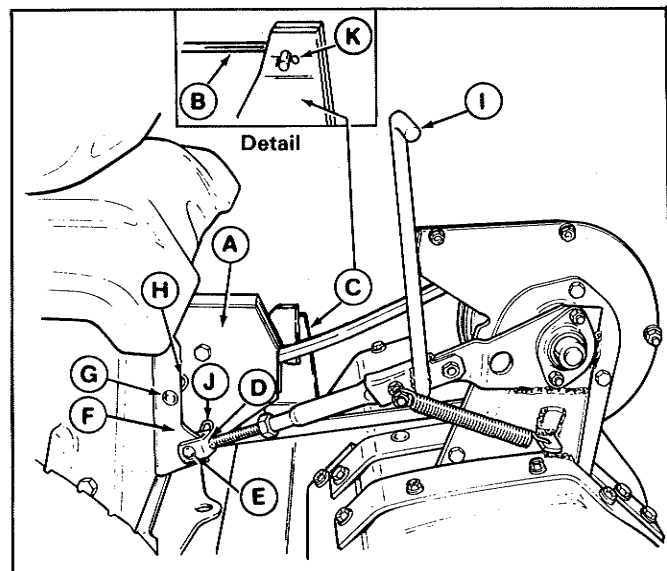

Figure 4. Tiller Installation
5. Attach the rod guide on the lift rod (item B, figure 4) to the tiller lift arm (item C) with spring clip.
3. Remove spring clips (items H and J, figure 4) and pins (items E and G) to detach clutch link clevis (item D) and pulley support (item A) from tractor. To prevent loss, install pins and spring clips in removed tiller parts.
Leave other items, including pulley support bracket (item F, figure 4), installed on tractor.